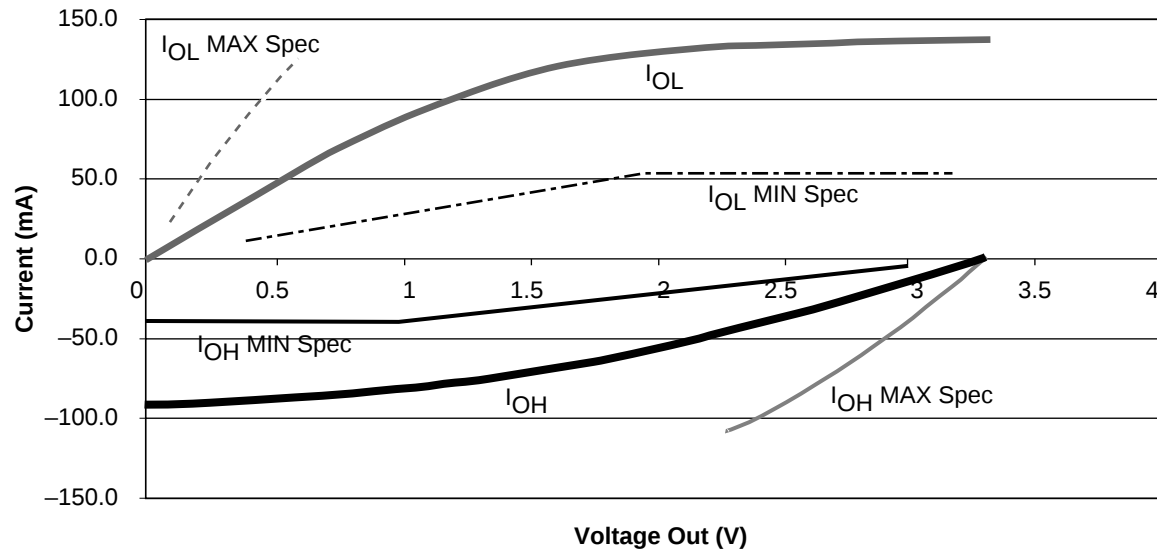

Figure 15 • 3.3V PCI Curve for RT54SX-S Family
1. Refer to the V/I curves in Figure 15 on page 22. Switching current characteristics for REQ# and GNT# are permitted to be one half of that specified here; i.e., half size output drivers may be used on these signals. This specification does not apply to CLK and RST# which are system outputs. "Switching Current High" specification are not relevant to SERR#, INTA#, INTB#, INTC#, and INTD# which are open drain outputs.
2. Maximum current requirements must be met as drivers pull beyond the last step voltage. Equations defining these maximums (C and D) are provided with the respective diagrams in Figure 15 on page 22. The equation defined maxima should be met by design. In order to facilitate component testing, a maximum current test point is defined for each side of the output driver.
Figure 15 shows the 3.3V PCI V/I curve and the minimum and maximum PCI drive characteristics of the RT54SX-S family.